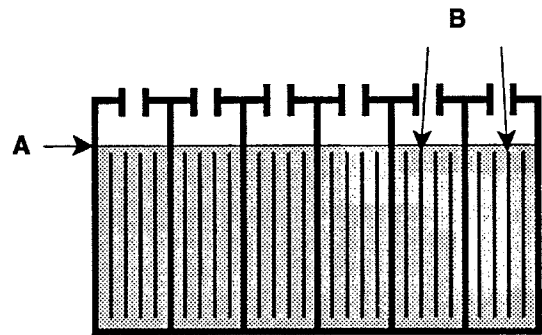

FIG. 21
4. Check water level "A" in each battery cell. Do not charge batteries unless water is slightly covering battery plates "B". If needed, add just enough distilled water to slightly cover plates. DO NOT overfill. Batteries can overflow during charging due to expansion. Replace cell caps before charging. (Figure 21)